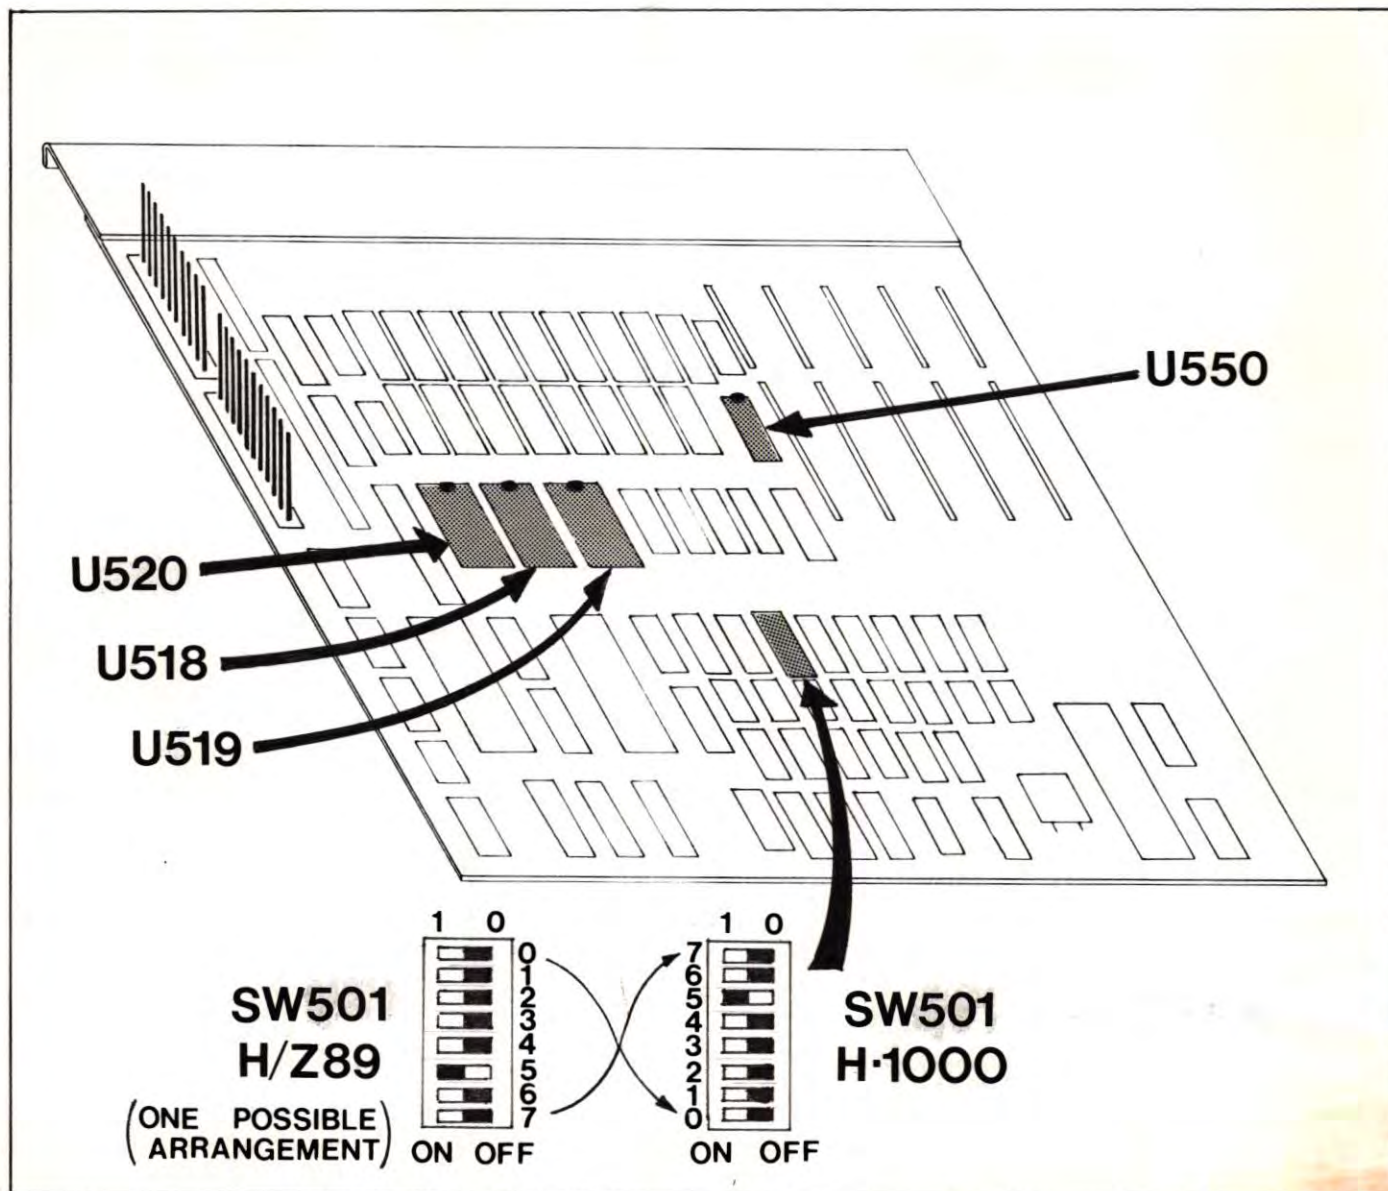

FIG. 1-7 H-1000 BOARD ROM LOCATIONS
- () Re-install the ROM in socket U518 on the H-1000 board (see fig. 1-7). Be sure pin 1 is in the correct location, and that all pins go into the holes in the socket.
The DIP switch SW501 on the H-1000 is functionally identical to SW501 on the old CPU board; however, the switch positions (0-7) are reversed top-to-bottom on the H-1000 due to layout restrictions. Set the DIP switch positions on the H-1000 to match your old CPU board as follows (see fig. 1-7):